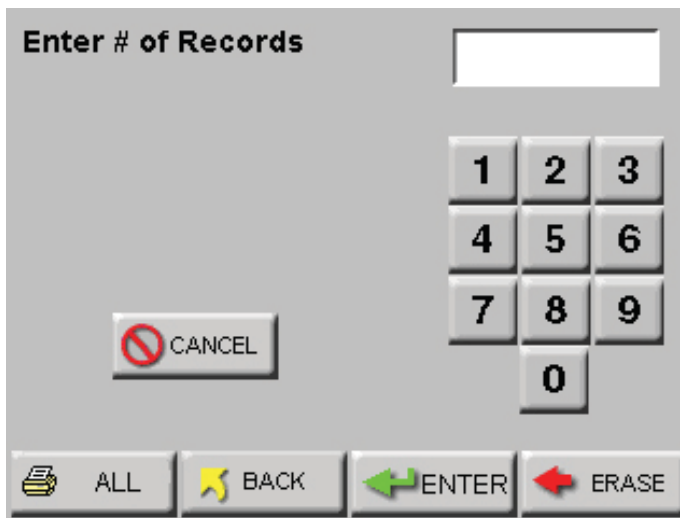

Figure 6-78 Print Range Screen - Buffer
- Press the RANGE button. The Print Range screen will display as shown in Figure 6-78.